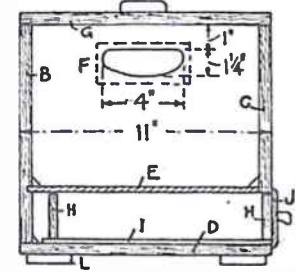

Fig. 3
which closes flush against the floor (D) and to the front (C) of the box. The floor is grooved into the back and further strengthened by glued angle fillets. This floor (E) must be fitted in while the sides of the box are being assembled. Note here that hand-holes are suggested in the ends (A) for the purpose of lifting the box, these holes being lined inside by gluing on thin wood, as shown in Fig. 3. The main floor (D) is screwed to the ends (A) and to the back (B). Four toe blocks are